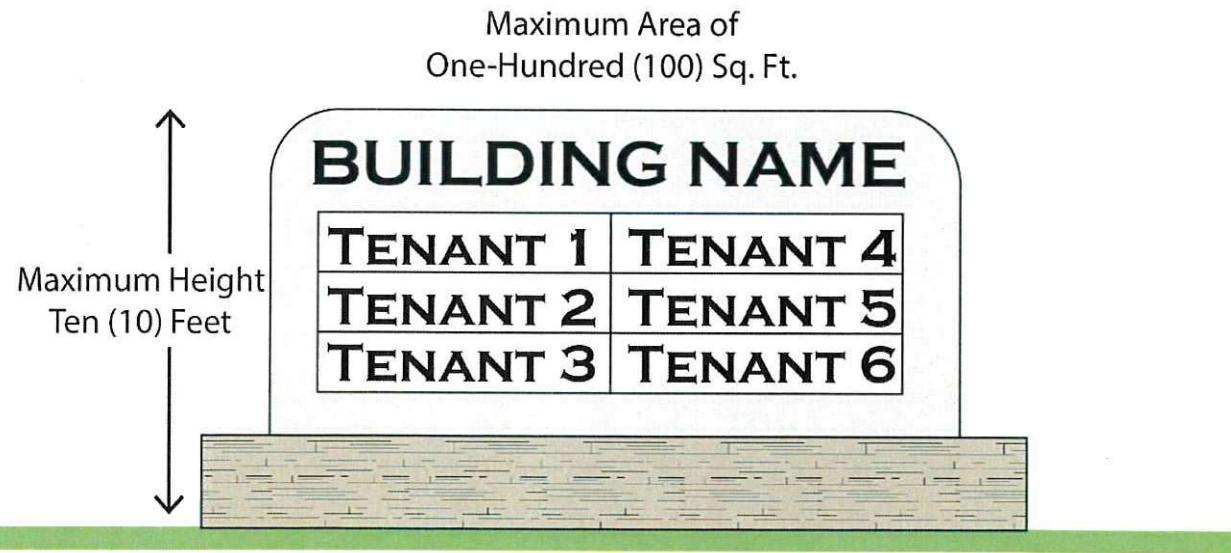

Figure 23
- c. Height. A monument sign for a single building or use shall not exceed 6 feet or 8 feet in height (*See Figure 12*). A shared monument sign for multiple buildings or uses shall not exceed 10 feet in height (*See Figure 23*).